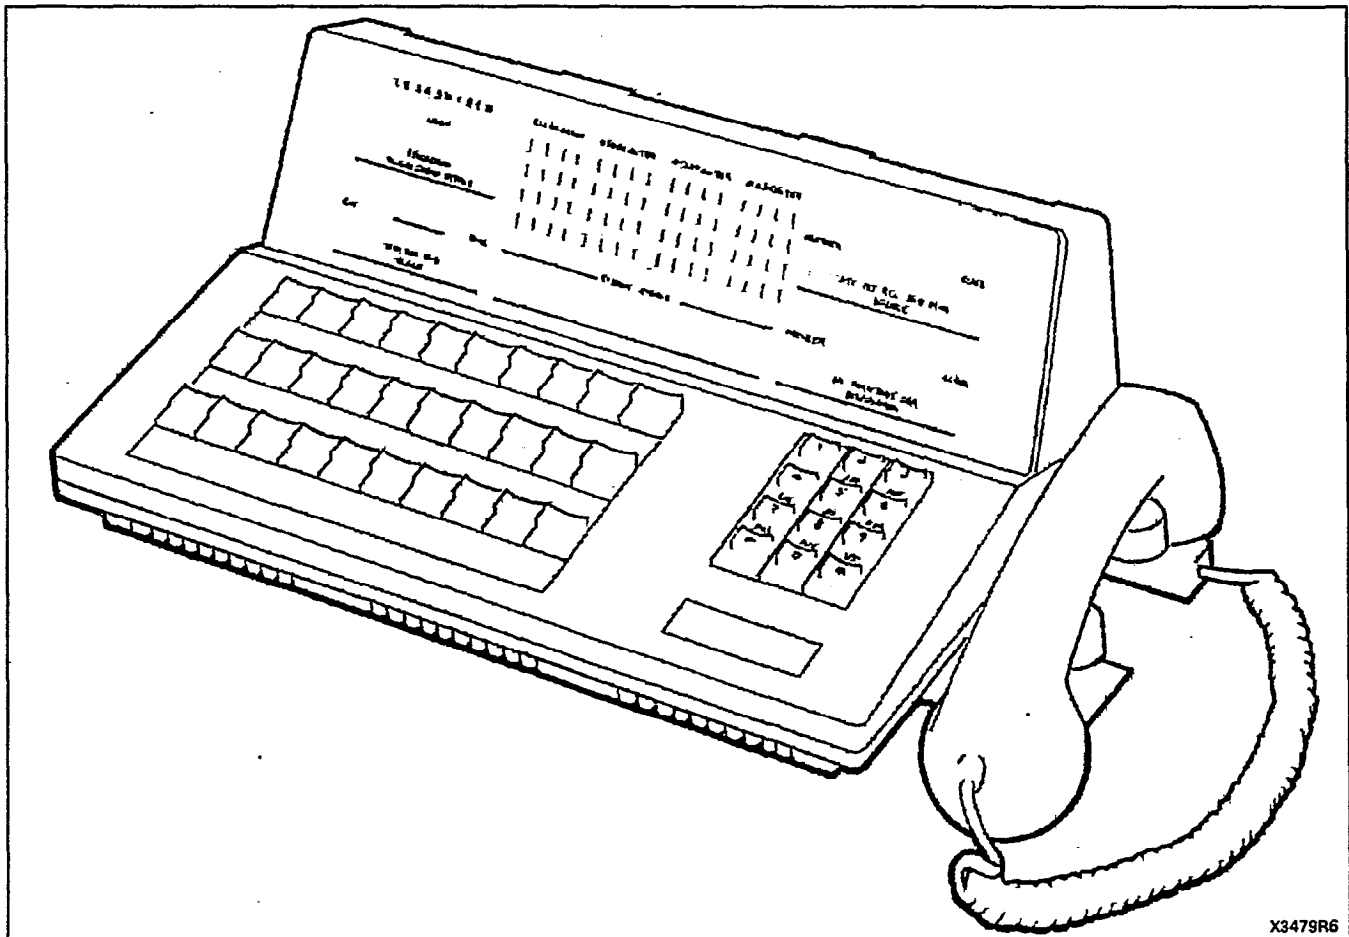

Figure 2-1 Attendant Console Type 200
2.01 The version of the Attendant Console described in this Section incorporates certain additional features, to those features provided by earlier consoles. The console is electrically and physically compatible with any SX-100/SX-200 PABX Generic. An illustration of this console is shown in Figure 2-1. The console features are: